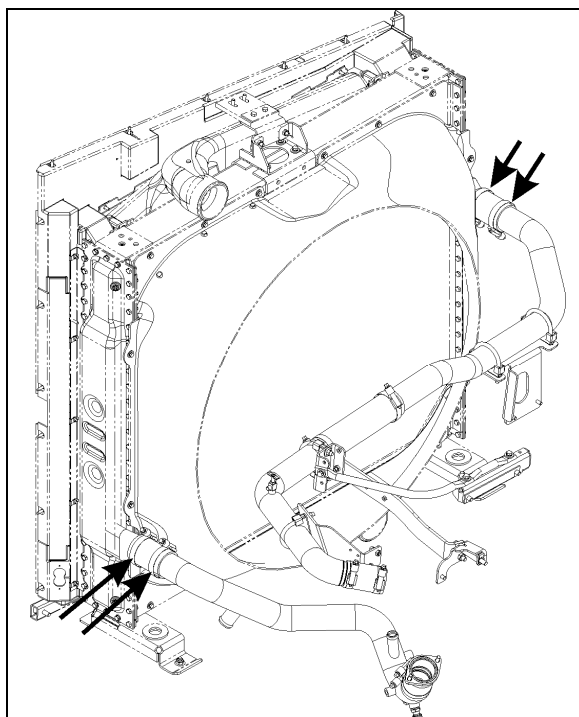

FIGURE 12: RADIATOR HOSE CLAMPS
10. Remove clamps and then break hoses from the front coolant and charge air pipes (Fig. 12 & 13).
11. Remove rear coolant and charge air hose clamps then break hoses loose (Fig. 12 & 13).